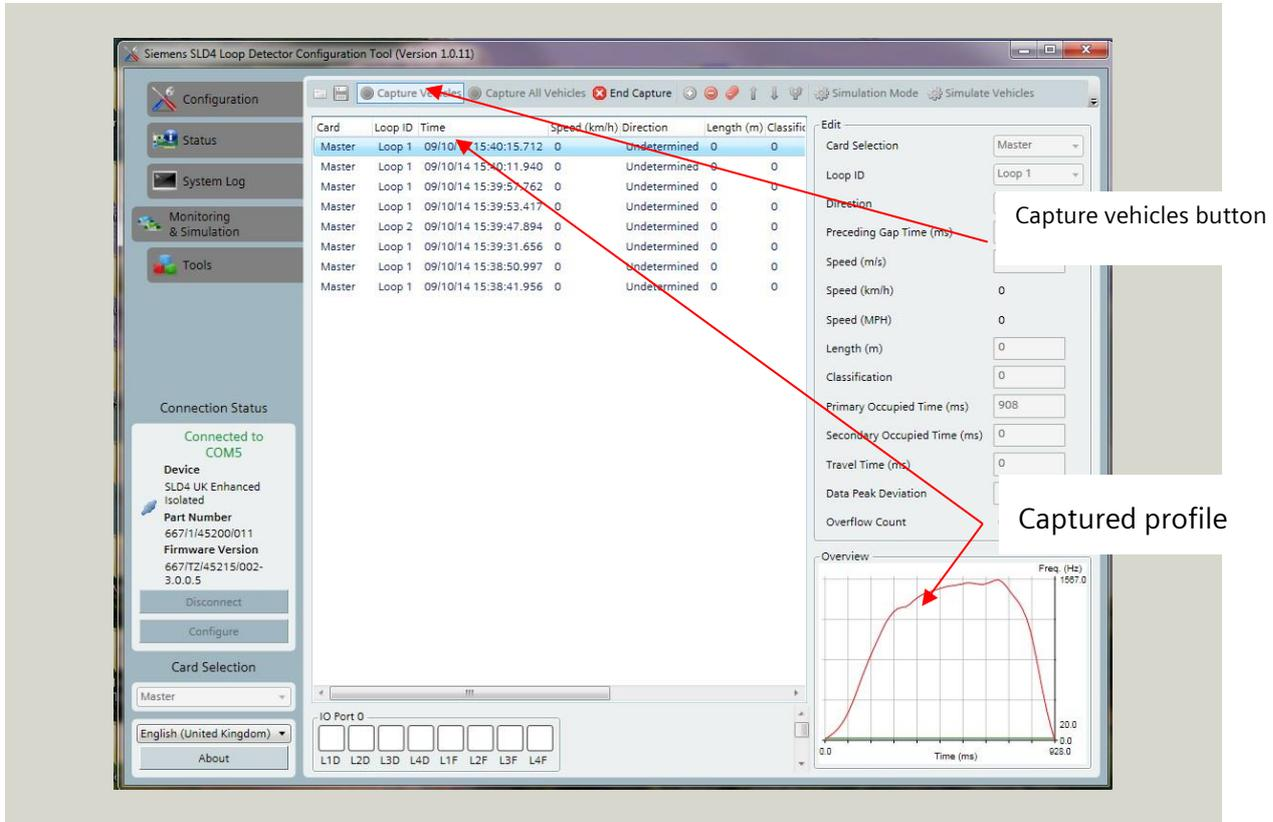

Figure 5 : Evaluating Loop Settings Using data Capture
The "Loop sensitivity Hz (Hz)" should be left at the default (20) until the loop sensitivity has been assessed using the Monitoring and simulation page, details of which are shown in Figure 5 . See also 2.2 SLD4 Sensitivity for explanation of "Hz" versus %d/D settings.
The "Loop sensitivity Hz (Hz)" should be left at the default (20) until the loop sensitivity has been assessed using the Monitoring and simulation page, details of which are shown in Figure 5